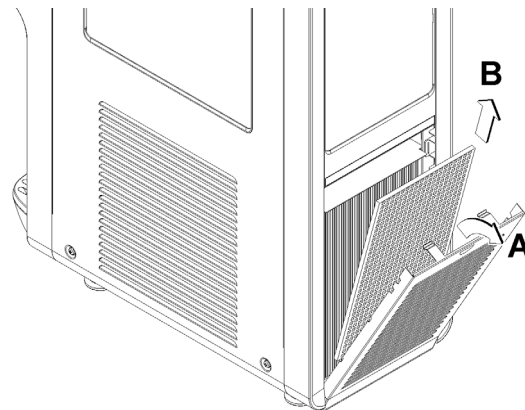

figure 32
- 4 Once a month: eliminate any dust that has built up on the condenser filter situated at the rear of the machine. (see figure 32)